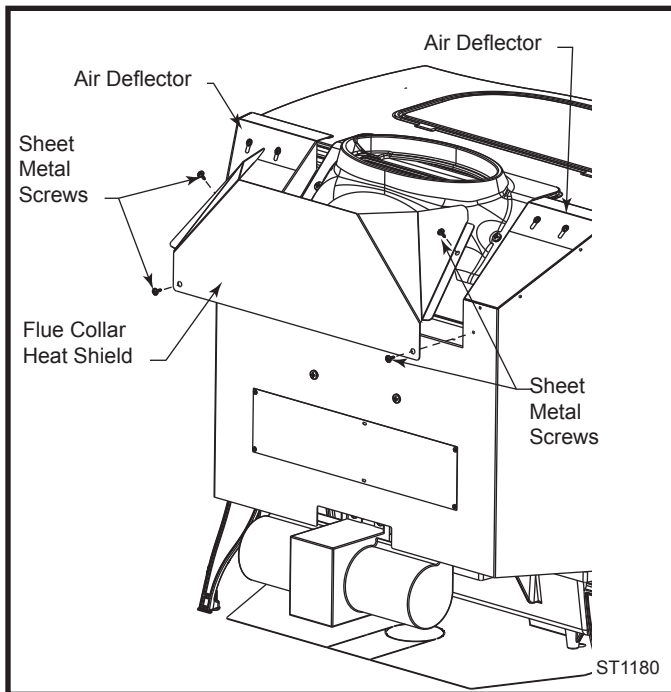

Fig. 24 Install flue collar heat shield.
If you have the optional fan kit, you may decide to adjust the air deflector to blow heat across the top of your stove. (Fig. 24) Loosen the two (2) screws on each side and raise or lower the deflector. After adjustment, tighten the screws.
WARNING: The flue collar heat shield must be attached to the Defiant stove. Use four #10 sheet metal screws supplied to secure the flue collar heat shield to the rear of the stove. (Fig. 24)